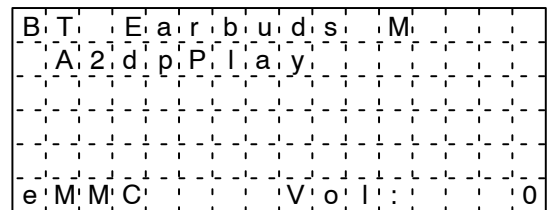

Figure 31. Display during BT Earbuds A2DP Streaming
3. You can play A2DP streaming from your Bluetooth device. During the A2DP streaming, the characters of “A2dpPlay” will be displayed on LCD shown in Figure 31.